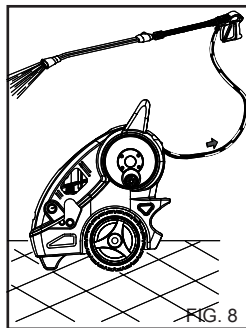

FIG. 8
After using a detergent, the detergent intake circuit must be flushed out with clean water (fig. 8).
- 1) After use with detergent, rinse the high pressure water circuit by operating the pump for one minute with the detergent tap completely closed. (fig. 8).
4) After use with detergent, rinse the high pressure water circuit by operating the pump for one minute with the detergent tap completely closed. (fig. 8).